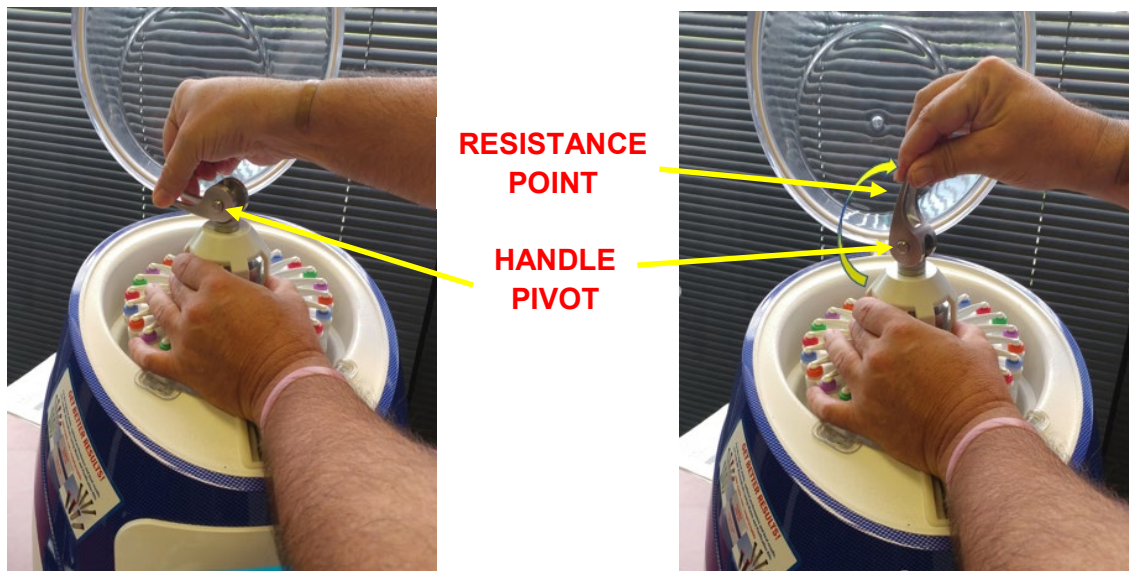

Figure IV-11: Lift Handle Around Pivot
17. Keep the 'Cam Lock' in the same position with respect to the 'Ratchet Bolt' and lift the handle upwards and around the 'Handle Pivot' to lock. Use free hand to steady the 'Adaptor.' \(Figure IV-11\). As the handle is lifted, no resistance will be felt at first. **Resistance will be felt when the handle reaches vertical, or slightly past vertical. If resistance is felt before vertical, loosen the 'Cam Lock' slightly by turning a few degrees counterclockwise about the 'Ratchet Bolt.'** **Never turn 'Cam Lock' on 'Ratchet Bolt' in the locked position with resistance. Always unlock it before adjustments are made.**
It is recommended to steady the 'Adaptor' with your free hand to allow a stronger grip to lock the 'Cam Lock' as well as to ensure no rotation around the 'Ratchet Bolt' occurs. See \(Figure IV-11\) and \(Figure IV-12\).